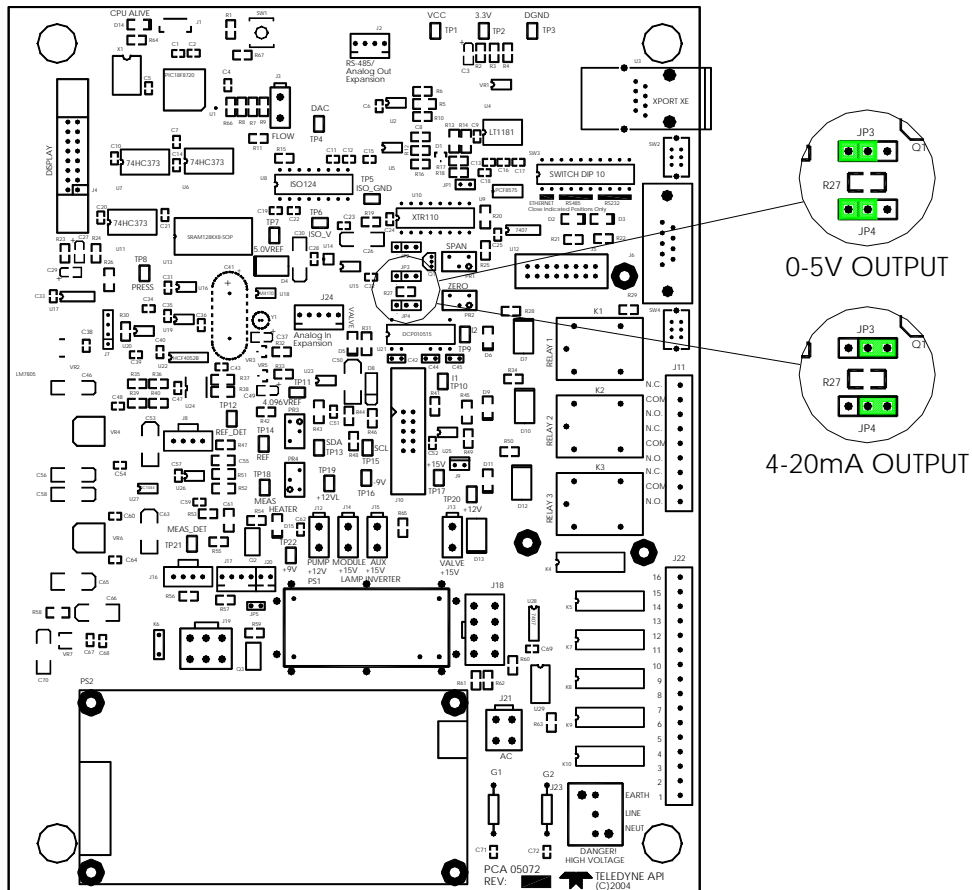

Figure 9-4: Mainboard – Analog Output Configuration
4. Set the desired operation as shown in Figure 9-4.